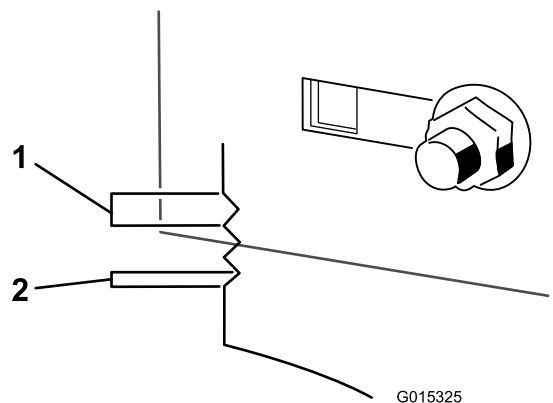

Figure 53
9. Use the notches on the welded bracket to measure the amount of adjustment. Each notch surface is equivalent to 0.25 inch, while a single side is 0.125 inch (Figure 53). Adjust the height of the mower deck to the desired height.